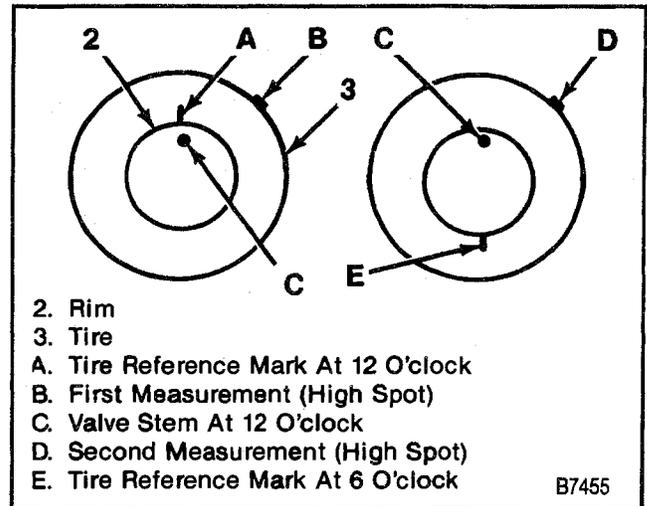

Figure 11—Checking Tire to Wheel Vectoring
- If the trend is uneven, wrap tape tightly around the tire, record the runout magnitude, and mark the high spot location (Figure 11).